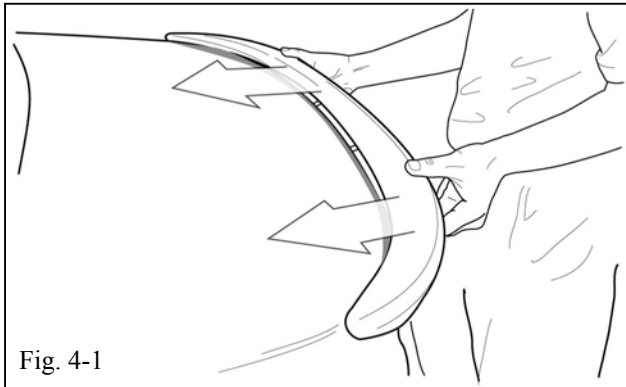

Fig. 4-1
- (b) Position the spoiler behind the trunk lid with the drill holes aligned to the spoiler studs. The two plastic studs go into the two 6 mm drilled holes aligning the Spoiler side to side and vertically (Fig. 4-1).